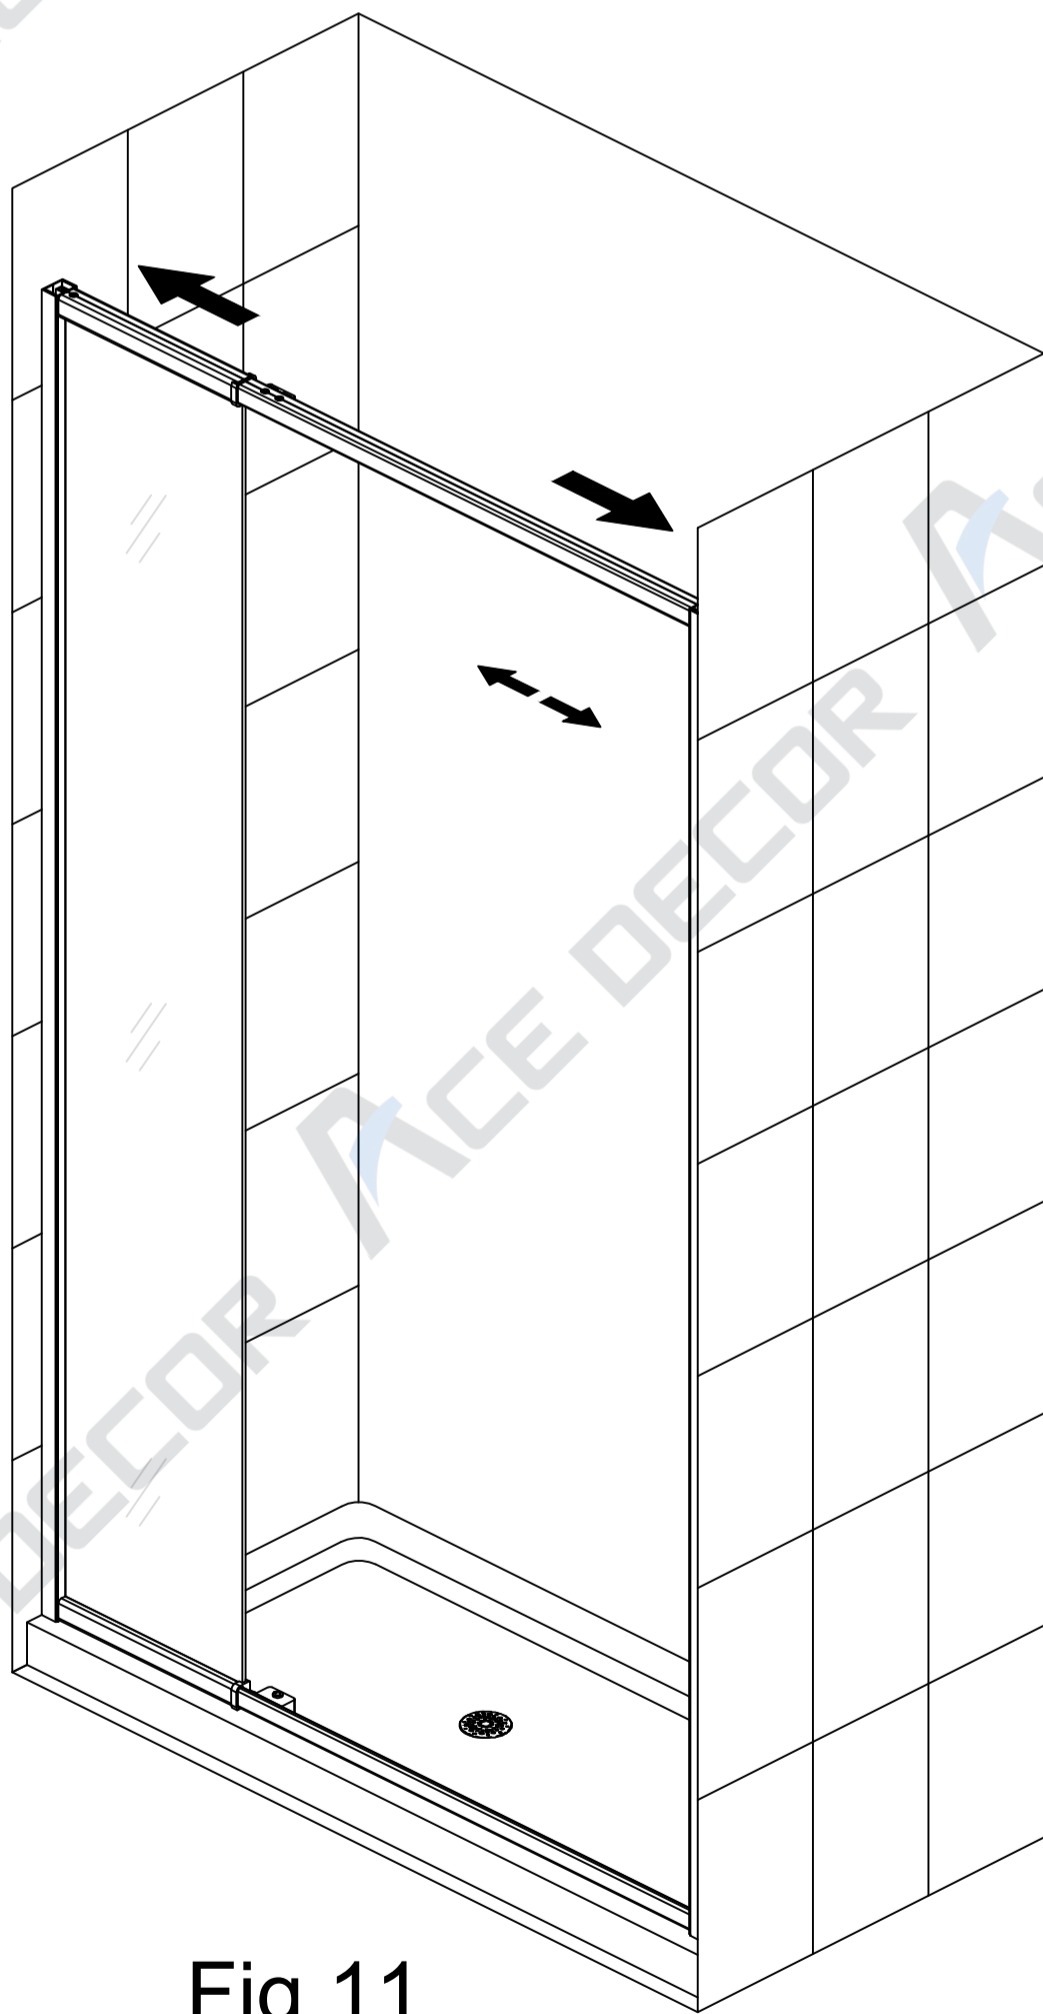

Fig 11
Extend the Expandable Rails **Top & Bottom Rails (A)** evenly so that the **Magnetic Strike Profile (G)** goes into the opposite **Wall Jamb (D)** on the door-side of the opening. (Fig 11)